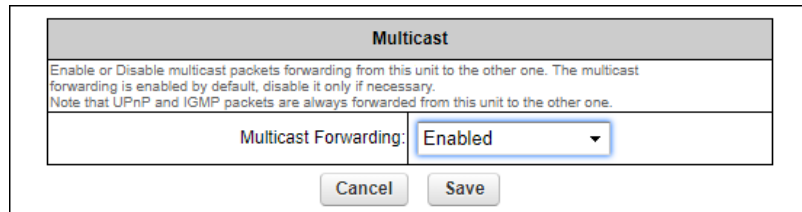

Figure 40. Multicast dialog (Bridge mode)
2. Click the **-multicast** link under **ADVANCED SETTINGS** in the left-hand settings menu (Figure 40 \(page 114\)).